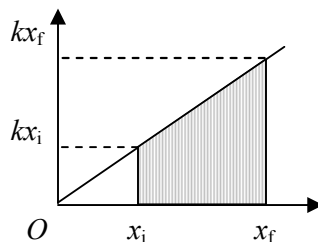

Figure 1
where $U_{\text{spring}} = \frac{1}{2}kx^2$ is defined as the spring (elastic) potential energy. In this case, the work is identified as the area under Force-Position graph between x_i and x_f (see Figure 1). According to the language of calculus, this area is called the *integral* and the mathematical process of computing this area is *integration*.
2) What is name of the geometrical shape that bounds the areas under your Force-Position graph (see Figure 1)?